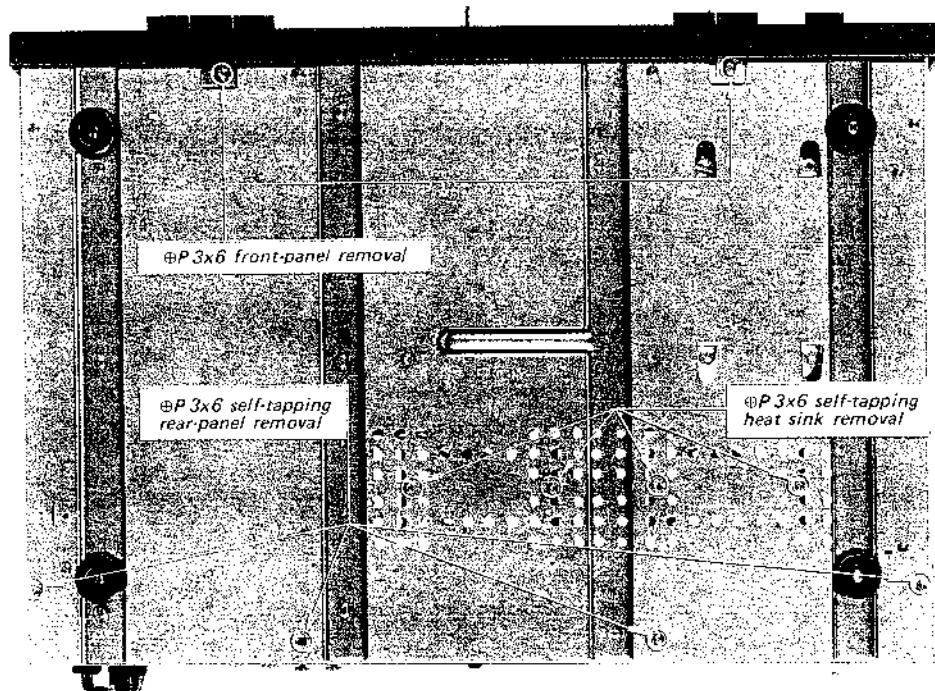

Fig. 2-4 Bottom view
5. Remove the two screws (\oplus P 3x6) from the front bottom edge of the amplifier securing the front panel to the front subchassis, as shown in Fig. 2-4. This frees the front panel.
2. Remove the four self-tapping screws ($\Theta P 3 \times 6$) securing the rear panel to the bottom plate, as shown in Fig. 2-4. This frees the rear panel.
2. Remove the two self-tapping screws ($\#P3 \times 6$) securing the heat sink to the bottom plate as shown in Fig. 2-4.